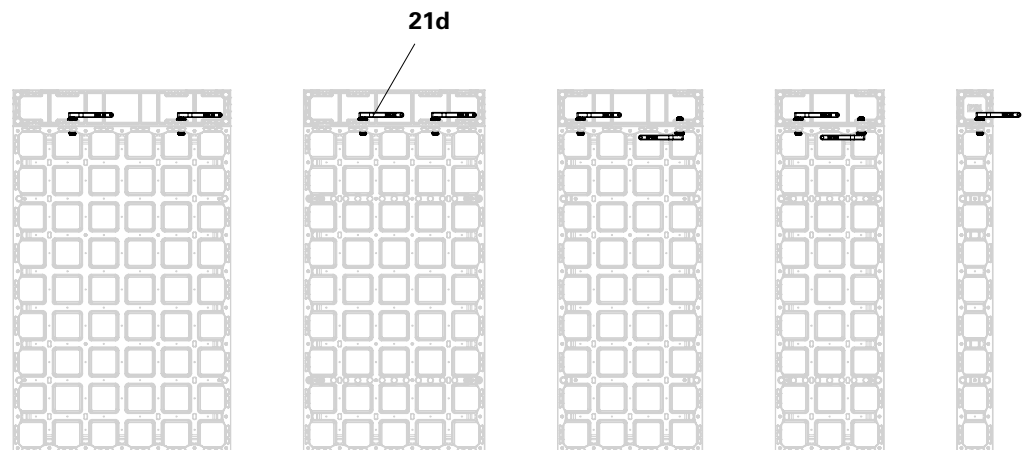

Fig. A3.05
- Mount DUO coupler (**21d**) in the connector pocket that is positioned closer to the centre in each case. (Fig. A3.05)